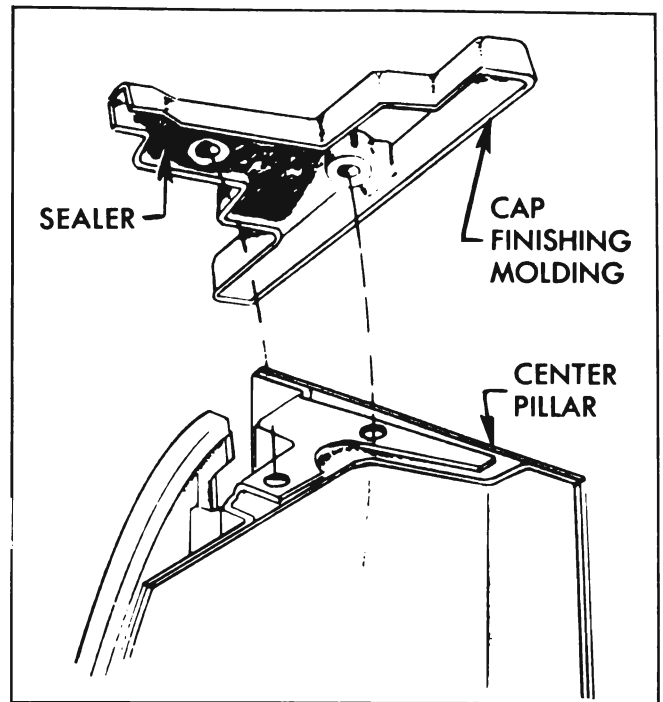

Figure 13-68—Sealing Center Pillar Cap
1. Remove two (2) screws from top of cap and remove cap from center pillar.
2. To install, first apply sealer to underside of cap as shown in Figure 13-68; then position cap on center pillar and install two (2) attaching screws.